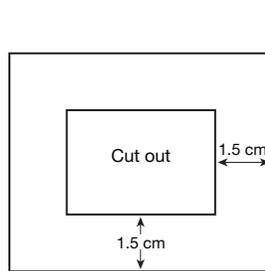

Figure 5.
2. Construct a measurement frame by cutting an index card in half (2 ½" x 3"). Using scissors, cut a center rectangle out of the card, leaving a 1.5-cm border around each side (see Figure 5).